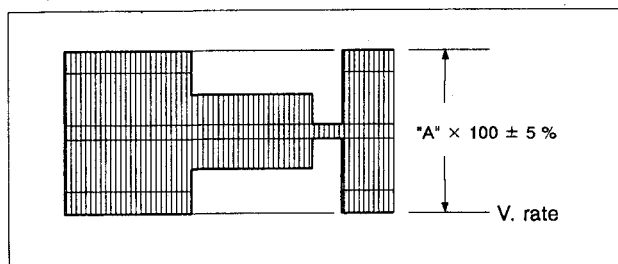

Fig. 3-1-20 EP REC color level
- 6) Adjust R49 repeatedly in recording so that the higher channel level is "A" $\times 100 \pm 5 \%$ in playback, as in Fig. 3-1-20.